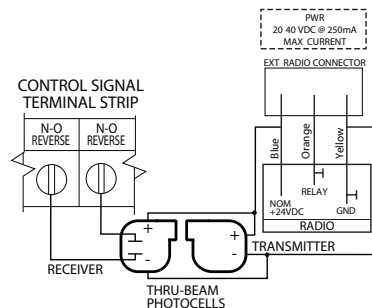

Figure 8
- Nominal 24 Volt DC Commercial photocells with normally open contacts can be connected as shown in **Fig. 8.**